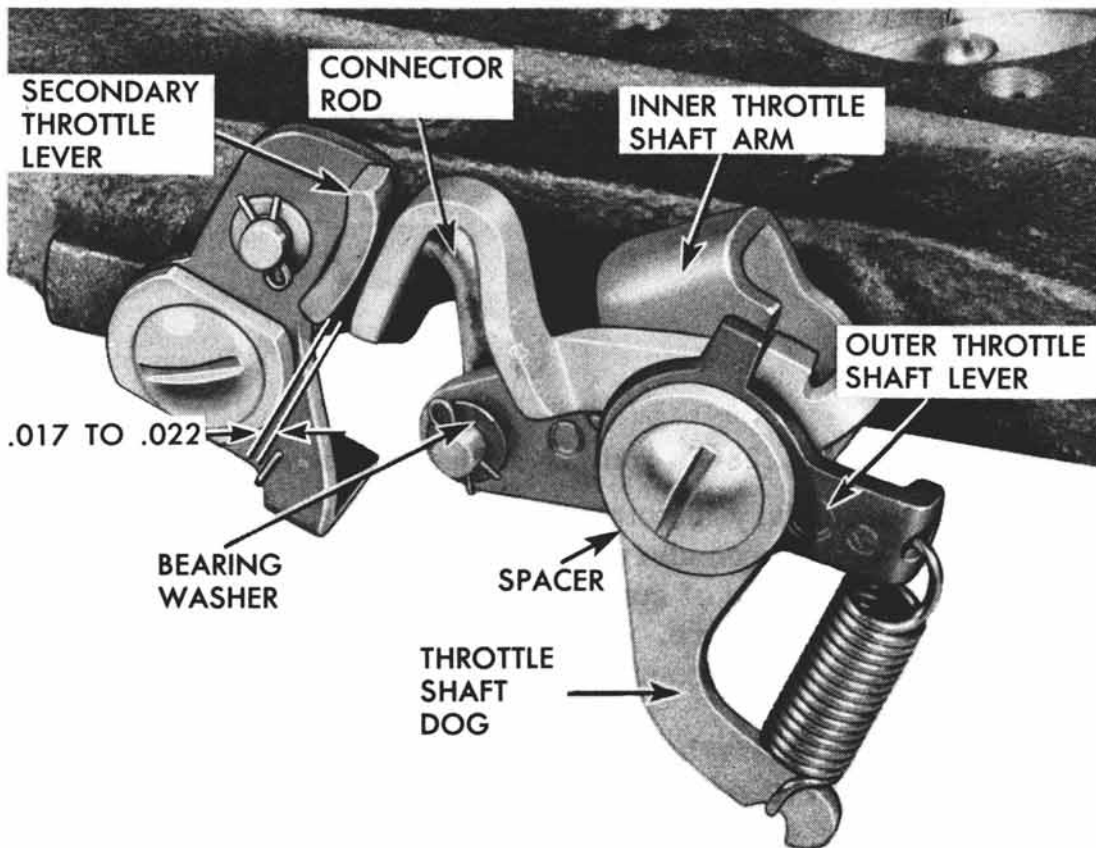

Fig. 30-C Primary Throttle Shaft Components
7. Hook spring attached to outer throttle shaft lever (Fig. 30-C) to arm of throttle shaft dog.
8. Using a bearing washer (Fig. 30-C) on each side of the secondary throttle lever and inner throttle shaft arm, install connector rod (Fig. 30-C). Secure rod with two spring retainers.